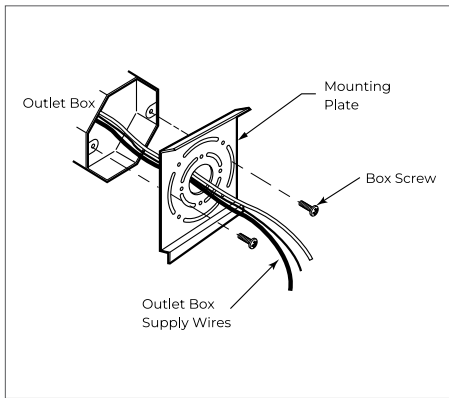

FIGURE 1
- A)** Thread power supply wires through center hole of mounting plate. Secure mounting plate to junction box using screws so that the fixture mounting points are aligned vertically. (Figure 1)